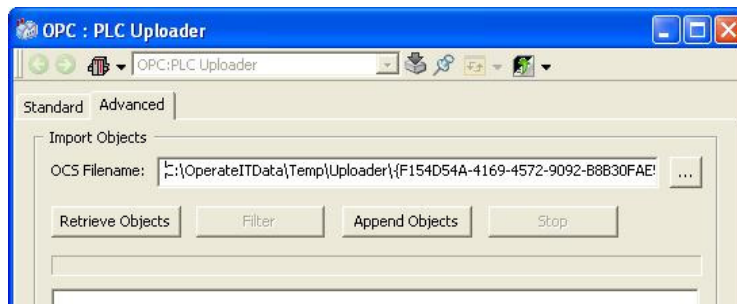

Figure 123. Advanced Tab
3. On the Advanced tab, the user can do a conditional Append after doing Retrieve by editing the Retrieve result in a Filter dialog. Refer to Figure 123.